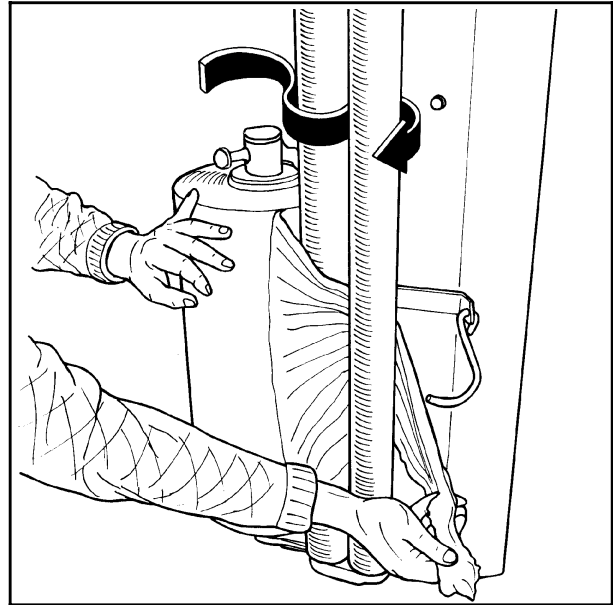

Fig. 4-2
- 4.3 Pull the film between the rollers on the pre-stretcher in the direction of the arrow. (See fig. 4-2). (See also the sign on the wrapping arm).